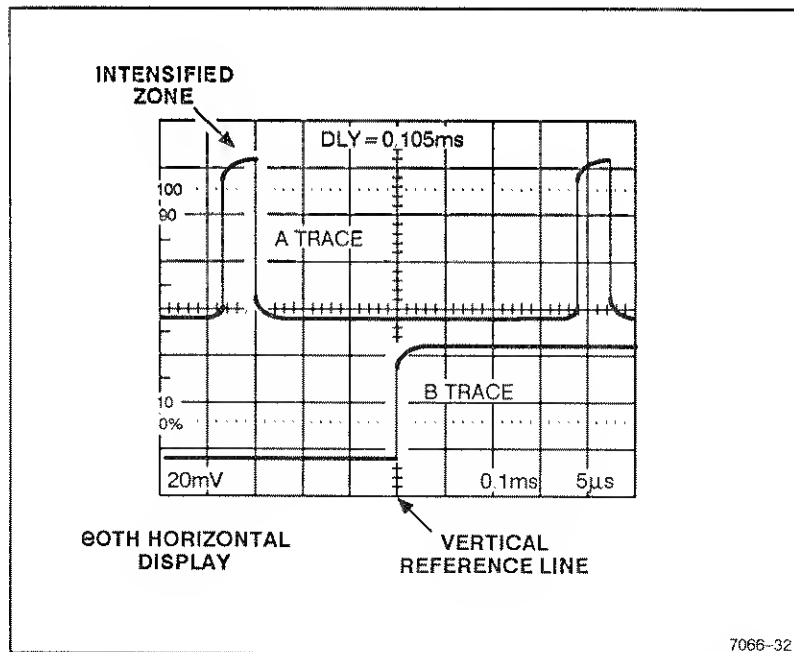

Figure 6-11. Time difference between repetitive pulses.
8. Adjust the B DELAY TIME POSITION control to move the intensified zone to the leading edge of the first pulse (on the A trace); then fine-adjust until the rising portion (on the B trace) is centered at any convenient vertical graticule line (see Figure 6-11).